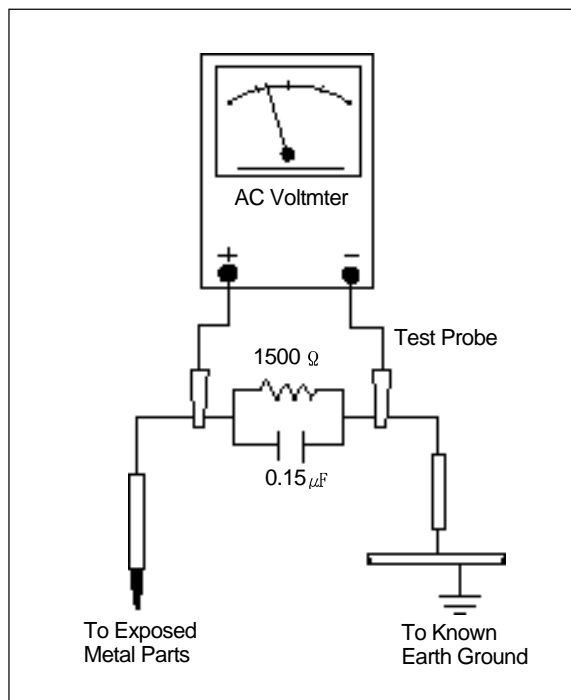

Figure 1-1.
- c. Use a SSVM or VOM with 1000 ohms per-volt or higher sensitivity to measure the AC voltage drop across the resistor (see Figure 1-1).